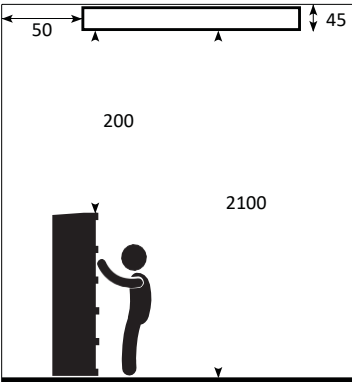
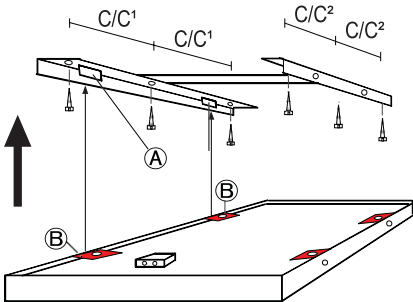

Fig.1b
Fig.4
3. Let the ENC hang vertically, fig.4, and connect the power supply cable to the 4mm2 terminal block in the connection box (C) according to fig.1b, through the cable grommets (D).
4. Swing up, fig.4, and secure the heater horizontally into the H-bracket, fig.5, with the two supplied screws (E). Warning! Make sure that the fixings (B) do not become unhooked at the opposite side.